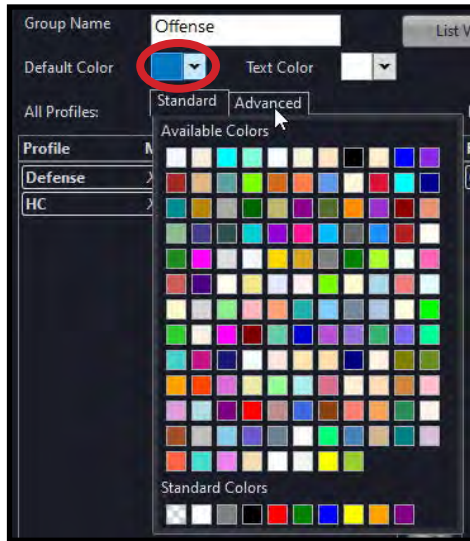

Figure 92: Editing Group Colors
- Open the drop-down color pickers in the Color and Text Color fields, and choose a color to represent the group (see Figure 92). The color chosen here appears on the RP Icons (X-Ware’s Home screen) for profiles with the group assignment.